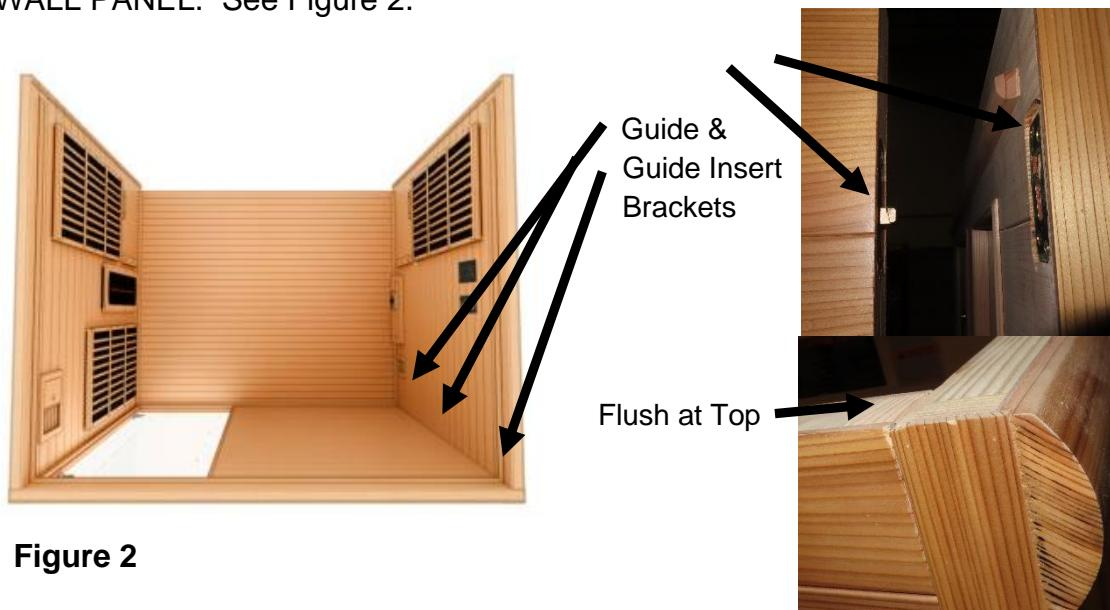

Figure 2
1. While one adult holds the FRONT WALL PANEL, a second adults can place the LEFT SIDE WALL PANEL up against the FLOOR PANEL with the trim molding on the LEFT SIDE WALL PANEL resting on the FLOOR PANEL and next to the FRONT WALL PANEL. The LEFT SIDE WALL PANEL will need to be lifted up and onto the FRONT WALL PANEL interlocking the guide and guide insert brackets. Make sure that the tops of each wall panel is flushed with the other. Do the same for the RIGHT SIDE WALL PANEL. See Figure 2.